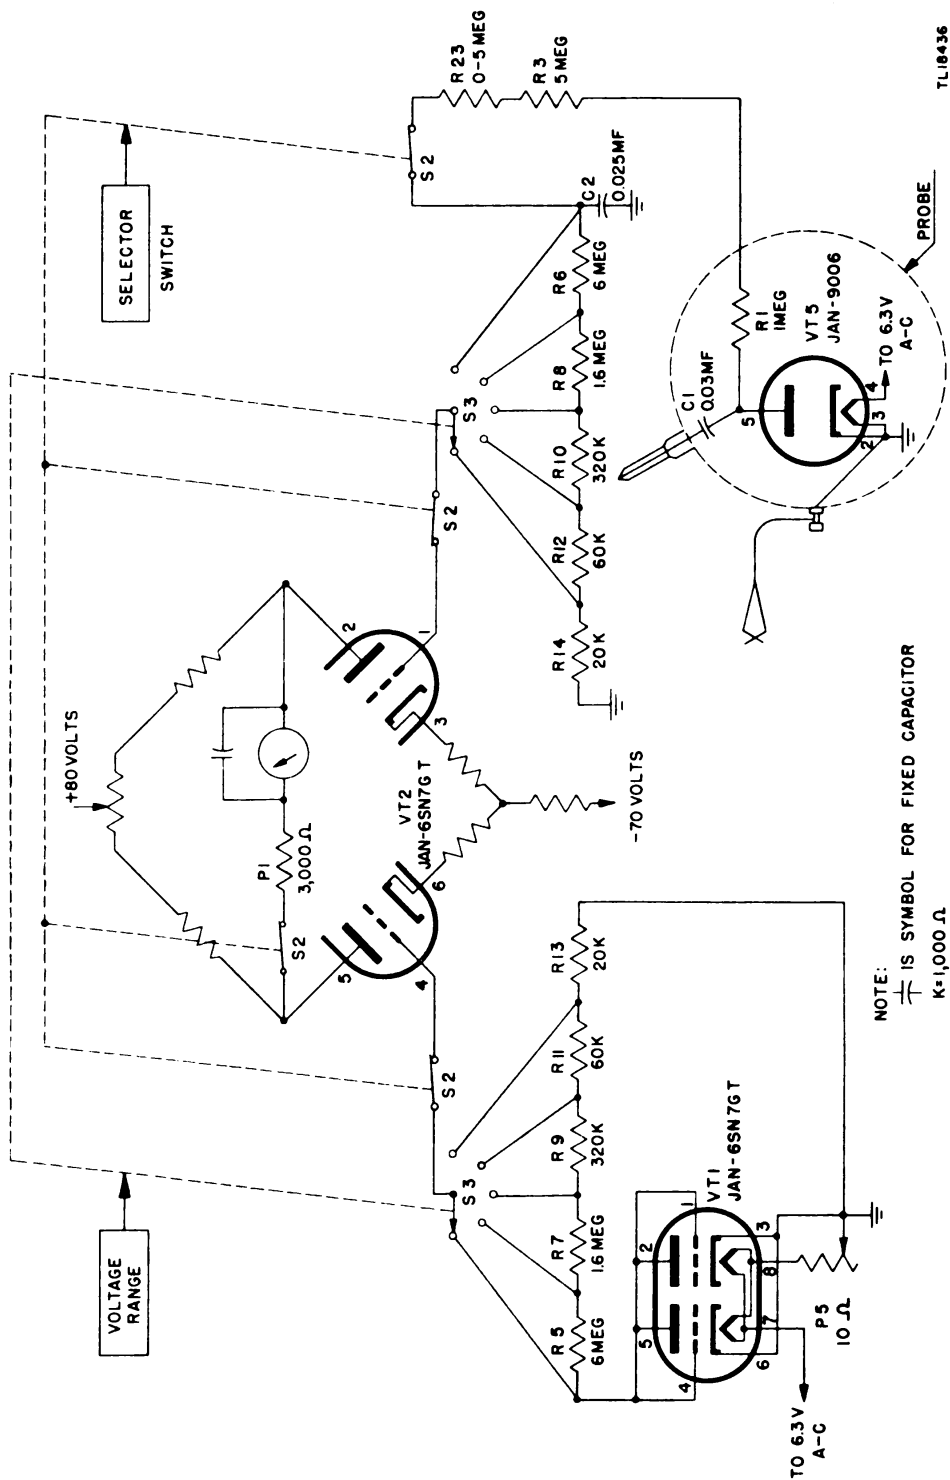

Figure 16. Simplified schematic diagram of a-c measurements circuit.
The a-c and r-f voltage measurements circuit consists of a diode probe, a contact potential bucking tube and its associated voltage-divider resistor network, and the d-c voltage measurements circuit. Figure 16 shows a simplified schematic diagram of this circuit with the probe components shown inside the circle.
(1) With no a-c or r-f input voltage at the probe tube, a zero-signal plate current of very small value flows in this tube. This current is normal for any diode and is caused by high-velocity electrons leaving the cathode and striking the plate even though no plate voltage is applied. As a result of the flow of this zero-signal plate current through the voltage-divider resistor network, a potential of approximately $1\frac{1}{4}$ volts is obtained at the output of the diode. This is called a contact potential.
(2) If some means were not provided to correct this condition, a percentage of this contact potential would be applied to the control grid of the voltmeter bridge and a zero reading would not be obtained unless an adjustment of the BALANCE control were made. In addition, a readjustment of this control would be necessary each time VOLTAGE RANGE switch S3 were changed. To compensate for the presence of this contact potential, a bucking circuit is incorporated. This circuit consists of a contact potential bucking tube VT1 (JAN-6SN7GT) and a resistance network which has identical resistor values as has the d-c voltage-divider resistor network.
(3) The two triodes of the bucking tube are connected in parallel and, in addition, the grids of the tubes are connected to the plates making the tube perform as a single diode (fig. 16). A zero-signal plate current also flows in this diode and because the resistance in the circuit is identical with the resistance in the d-c voltage-divider network, the currents through these two networks may be made equal. Likewise, the voltages appearing across the two networks as a result of contact potential may also be made equal. A potentiometer is inserted in one of the heater leads of the bucking diode for this purpose. This control regulates the amount of electron flow in the tube and, when properly adjusted, allows the zero-signal plate current in the bucking tube to have the same value as the zero-signal plate current of the probe tube.
(4) Since the contact potentials so developed are equal, balance in the bridge is maintained by applying the potential obtained from the bucking diode to one grid of the bridge tube and the potential obtained from the probe diode to the other grid of the bridge tube. Furthermore, because VOLTAGE RANGE switch S3 is a multiple switch and controls the position of the contact arms for each resistor network simultaneously, the voltages applied to the grids are always equal regardless of the range being used.